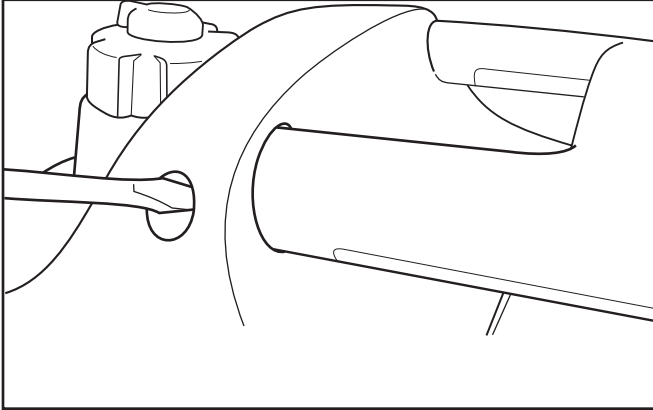

Figure 8
1. Loosen the four handle screws and remove the handle (Figure 8).